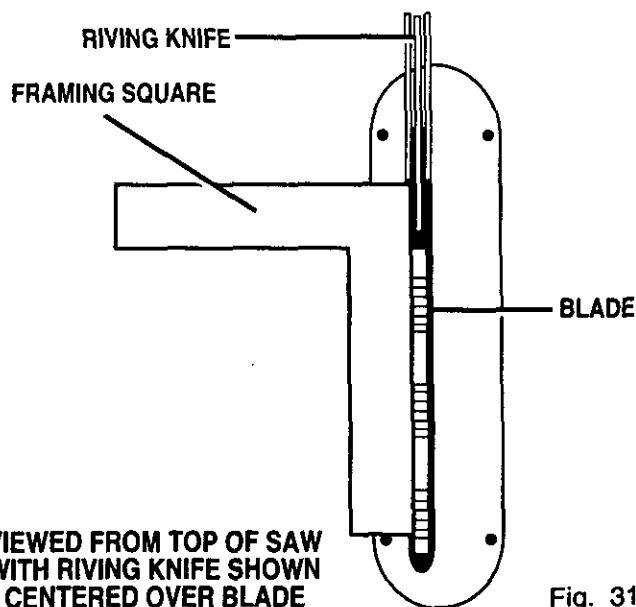

Fig. 31
- Center riving knife over the blade. See Figure 31.